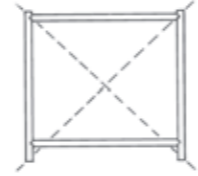

Fig 18 Check square
- Clean up any glue squeeze-out with a damp cloth and remember to measure the diagonals of the carcass to ensure it is square (see Fig 18).